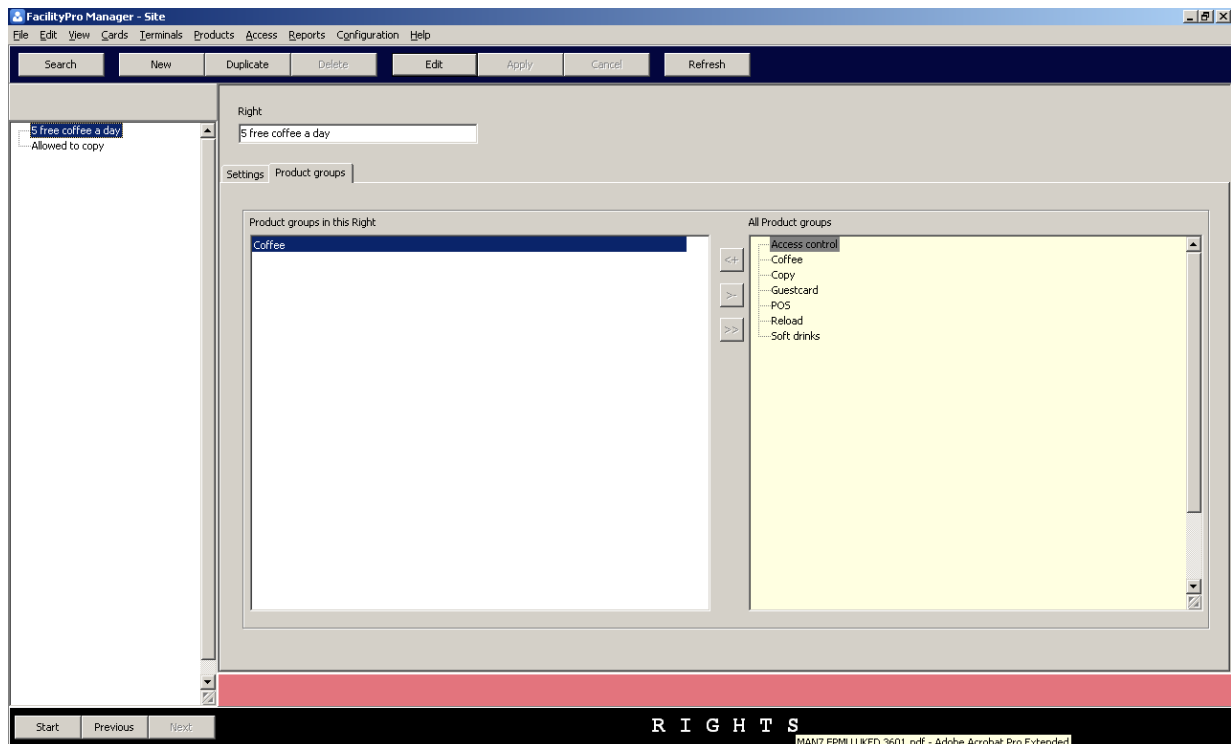

Figure 5-8 The tab 'Product groups' of the rights data screen
5. Click the tab 'Product groups'. You will see the tab 'Product groups' (Figure 5-8). On the right you will see a list of all the product groups. On the left you will see a list (which might be empty) of the product groups that this right already pertains to.